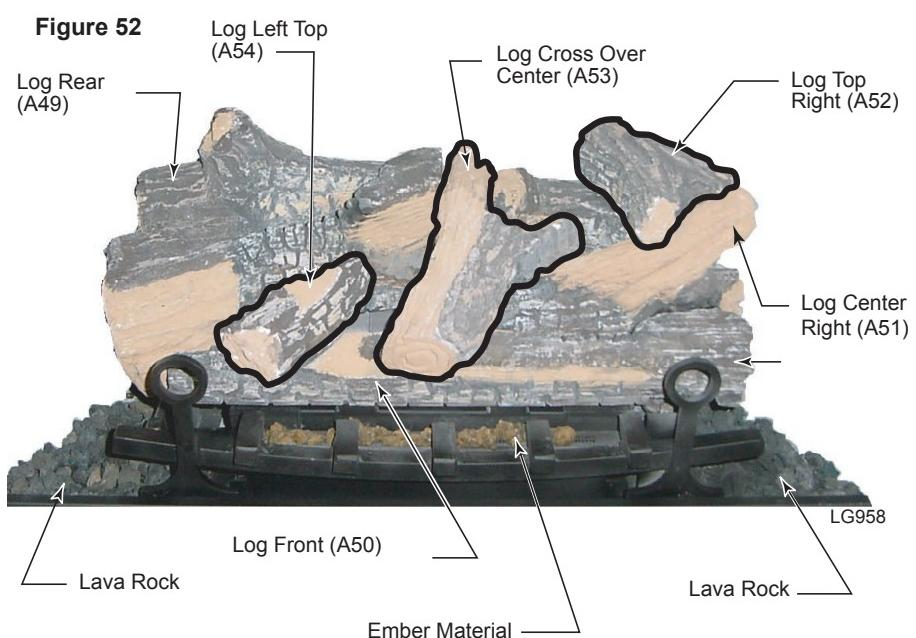

Figure 51
4. Place the log front (A50). Place the two underside holes of the log over the two pin studs of the bracket located at the front of the burner housing. (Fig. 51)